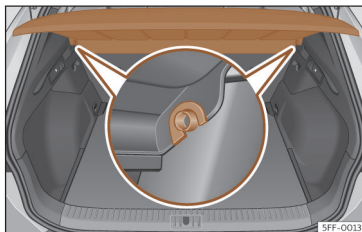

Fig. 176 In the boot: removing and installing the shelf.
- Remove the rear shelf from the side supports >>> **Fig. 176** by pulling it upwards and then take it out.
- Insert the cover horizontally so that the "recess" fits onto the axis of the supports >>> **Fig. 176** and press down until it engages.